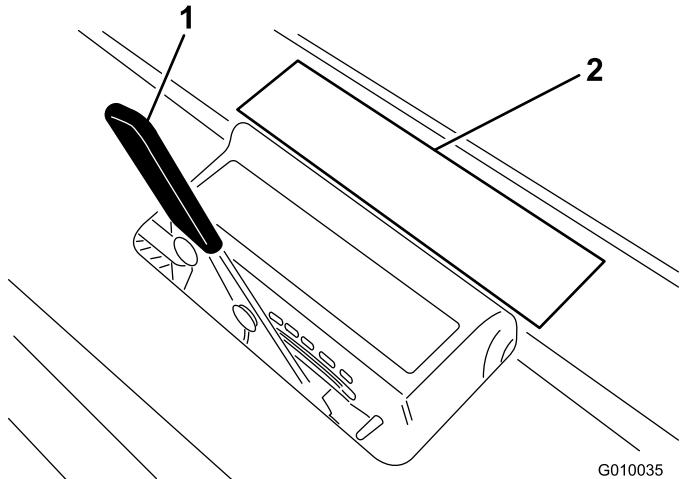

Figure 27
- Lay the tine on the tine depth decal (Figure 27) with one end lined up with the desired depth of aeration (refer to the tine overlay on the decal).